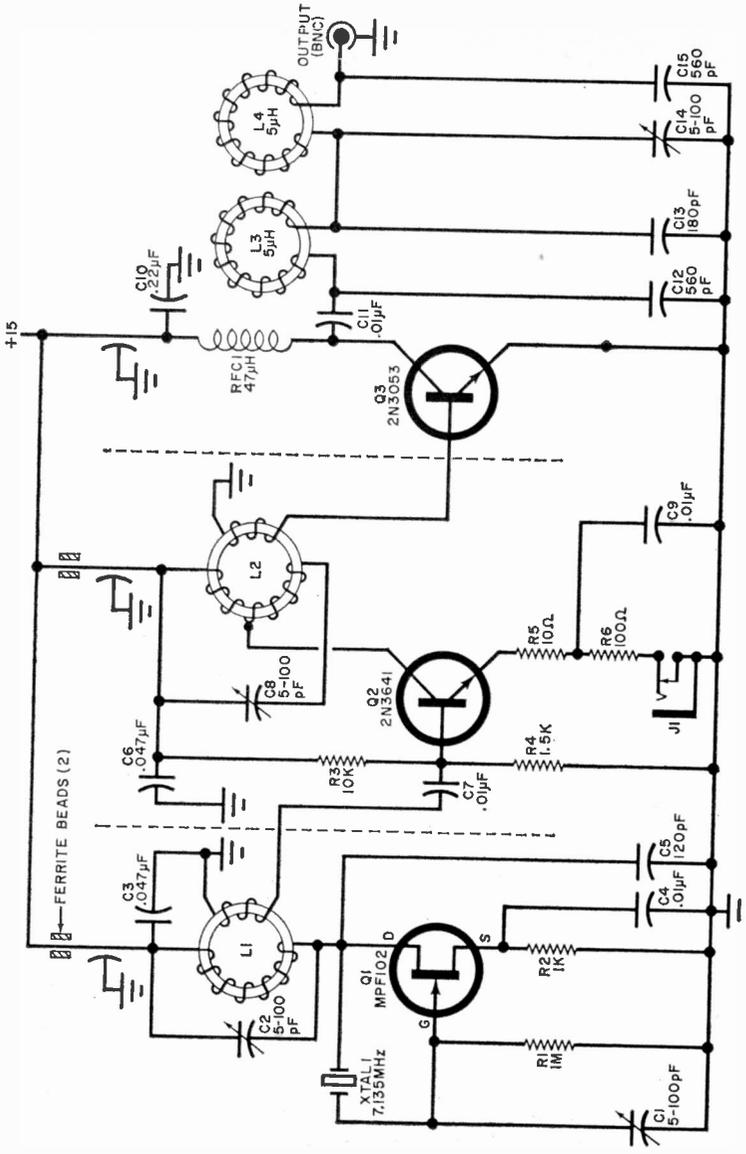

Fig. 3. Final circuit for the QRP transmitter accomplished all of the author's design objectives—better keying and less harmonic radiation.
**Construction.** The schematic of the adapter is shown in Fig. 2. The entire circuit is assembled on a printed circuit board as shown in Fig. 3. All parts, with the exception of the transistors and the IC, should be pulled down firmly against the board with their leads bent over and soldered to the foil. Leave about 1/8" of lead exposed on each transistor and be sure pin arrangement is correct before soldering them in place. The leads of the IC must be separated and bent to form a "spider" arrangement. Again be sure the leads are properly oriented before soldering it in place. The "T" on the foil pattern indicates where the tab should be. Use a low-power soldering iron and fine solder.
Fig. 3. When installing the components on the board, make sure the IC is oriented properly by noting exactly where the tab is located. Also observe the polarity of the electrolytics and the transistors.
After experimentation, the final circuit for the QRP rig is shown in Fig. 3. The overall circuit is straightforward and uses readily available components with the sole exception of the two toroids, *L1* and *L2*. If any coil